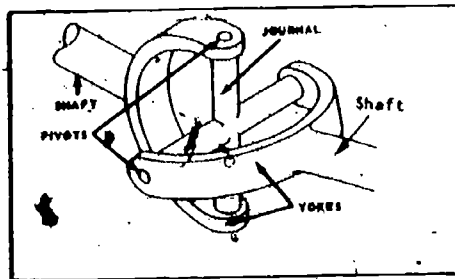

Fig 3-31. Simple universal joint.
c. Universal joint. A simple universal joint (fig 3-31) is composed of three basic units: one journal, and two yokes. The construction permits each yoke to pivot on the axis of the journal, and carries the rotary motion from one yoke to the other. As a result, the universal joint can transmit the power from the engine through the propeller shaft to the differential, which is constantly moving up and down in relation to the frame.